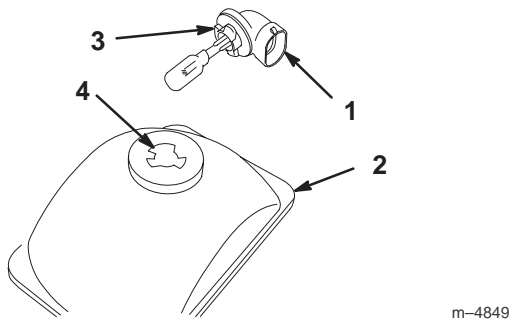

Figure 37
2. Reach beneath the dash and rotate the lamp assembly 1/4 turn counterclockwise (Fig. 37). Pull the lamp assembly out of the reflector.
5. Reach beneath the dash and align the three tabs on the lamp assembly with the slots in the reflector (Fig. 37). Insert the lamp assembly into the reflector and rotate it 1/4 turn clockwise until it stops.